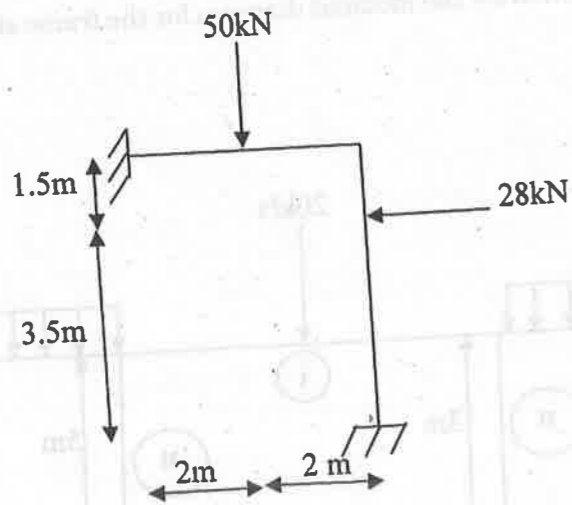

Fig. 8
17. Analyze the rigid frame as shown in fig. 8 on 4th page. Use direct stiffness method. Assume $E = 200 \text{ GPa}$; $I_{zz} = 1.33 \times 10^{-4} \text{ m}^4$ and $A = 0.04 \text{ m}^2$. The flexural rigidity EI and axial rigidity are the same for both the beams.